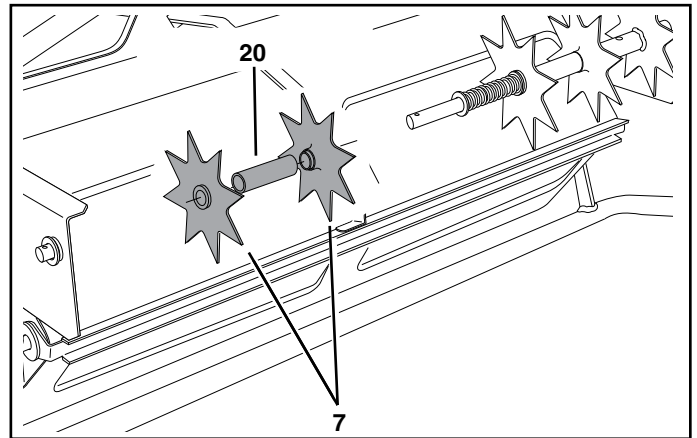

FIGURE 18
- Place two spike disks (7), separated by a long spacer tube (20), onto the shaft. Fit the long spacer tube onto the ends of the flanged bearings in the disks. See figure 18.